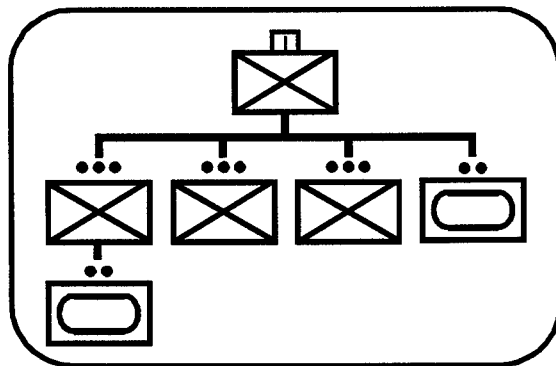

Figure 4-3
□ **Break the tank platoon into two sections: one under company control and one under platoon control (see Figure 4-3).** The maneuver infantry platoon has a tank section available to support the close fight. As stated in the previous option, the infantry platoon leader would still face the difficulties associated with this additional element to command and control. However, the **commander has a tank section to deploy at the critical place and time**, as he determines. This task organization technique still allows support to the infantry close fight while keeping additional support options in reserve for the commander to employ. There are *drawbacks* here as well. The tank platoon leader is not maneuvering his tanks--an infantry platoon leader is. Also, the tanks directly available to the company commander are cut in half.